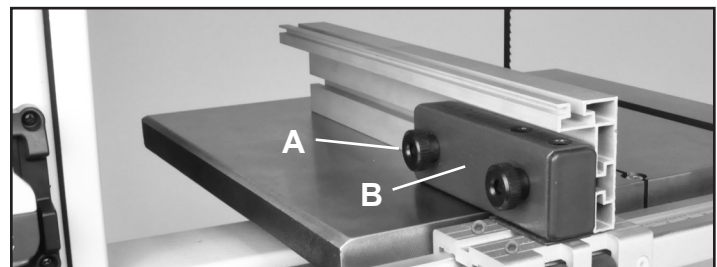

FIGURE 31
- Loosen the two side Knobs (#110, FIG. 31, A) which hold the Fence (#106) against the Fence Carrier (#107, B).
- Loosen the two side Knobs (#110, FIG. 31, A) which hold the Fence against the Fence Carrier (#107, B).